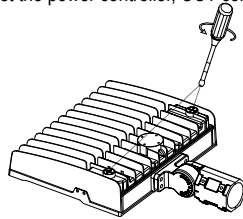
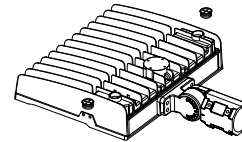

Figure 5.1
Figure 5.2
Step 1: Open the metal plug and plastic plug counter clock wise with a screwdriver (Figure 5.1). Then, slide the switch up and down to adjust the power controller, CCT controller or photocell controller in your demand. (Figure 5.2)